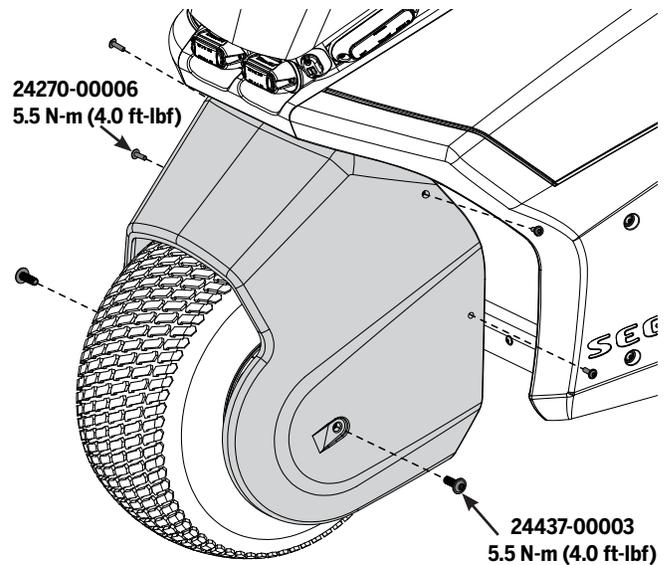

Figure 33: Front Fender Fasteners
2. Using a 6 mm hex wrench, remove the two large fasteners (one per side). See **Figure 33**.
3. Using a 6 mm hex wrench, install the two large fasteners (one per side). See **Figure 33**. Torque to **5.5 N-m (4.0 ft-lbf)**.